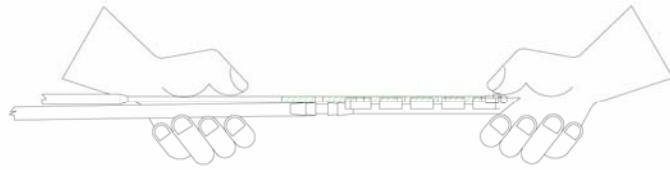

Figure: 2
5. Gently pushing the probe into the suction stabilizer pods making sure that the gaps between the electrodes reside in the middle of the pods. See Fig 2. Insure that the probe is recessed within the slot along its entire length by snapping the probe into the groove of each suction element such that there is a snug fit with no gaps at the interface between the probe electrodes and suction pod wall